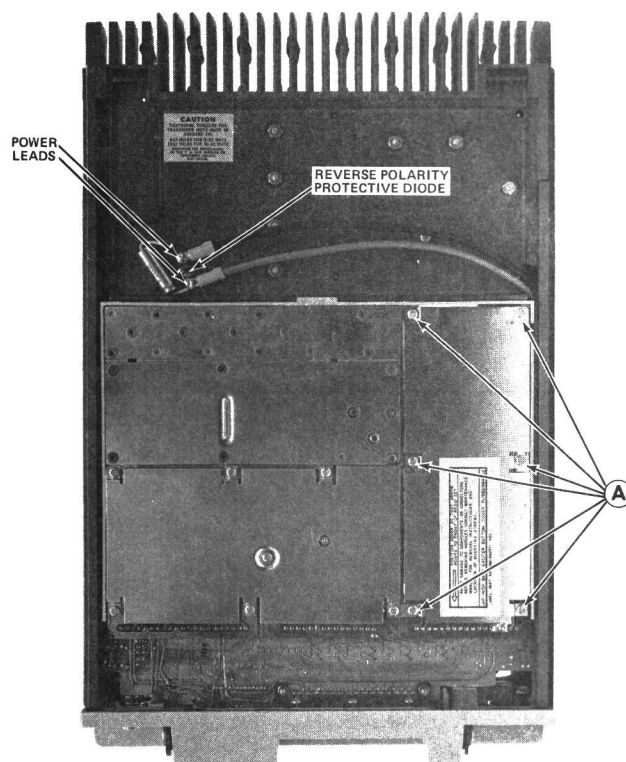

Figure 5 - Disassembly Procedure Bottom View
3. To gain access to the bottom of the exciter board, remove the six screws (A) holding the exciter board and its bottom cover to the module mounting frame, and remove the bottom cover (see Figure 5).